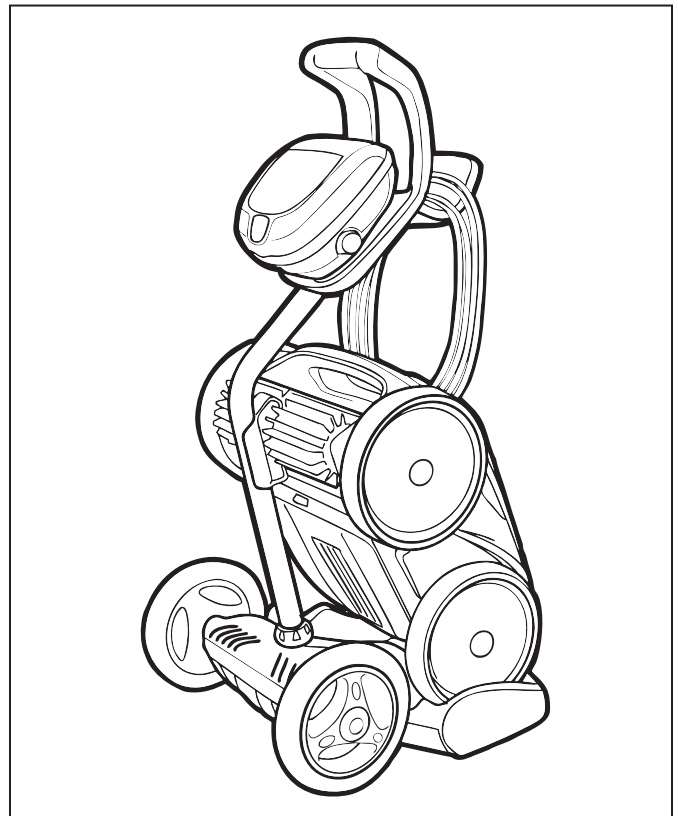

Figure 19. Cleaner Correctly Stored on Caddy
2. Place cleaner in vertical position on the caddy base and clip to hook (Figure 19).
4. Loosely coil the power cable starting at the cleaner and moving toward the connection point at control unit. Remove any twists along the way. Store the cable by wrapping it around the hook located on the front of the caddy (Figure 19).